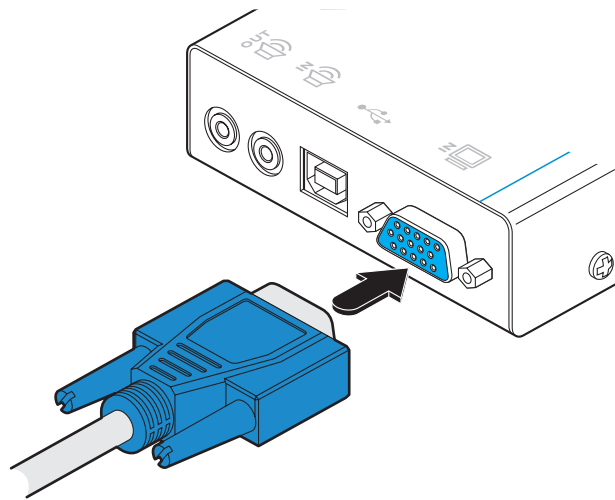

Figure 3-3. Attaching the VGA video link cable
- 2 Use the supplied VGA link cable to connect the VGA input socket of the local module to the video output socket of the computer as shown in Figure 3-3: